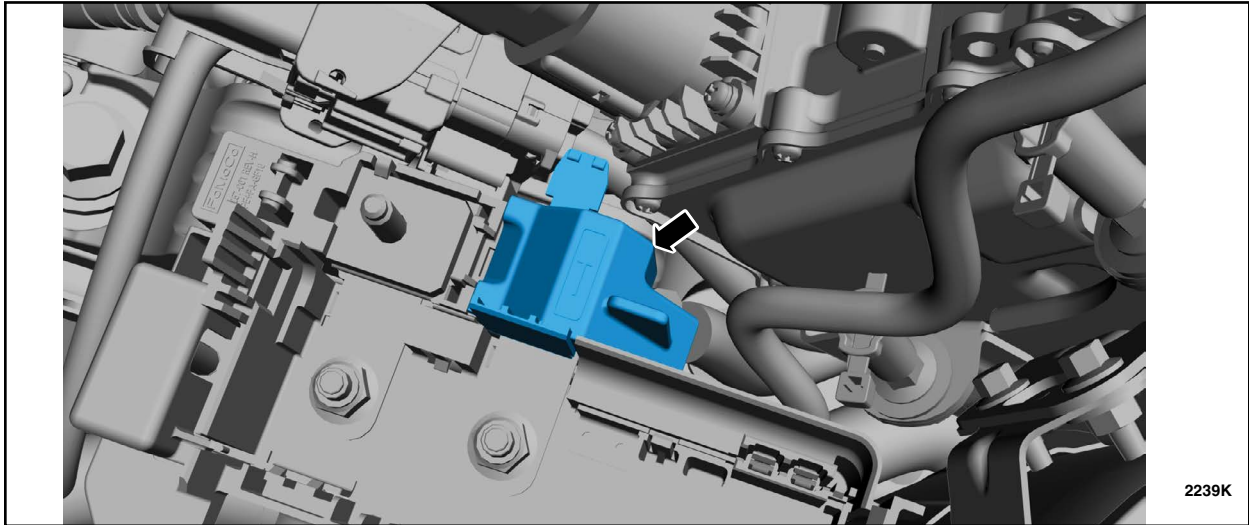

FIGURE 10
14. Remove the power cable terminal cover. See Figure 10.